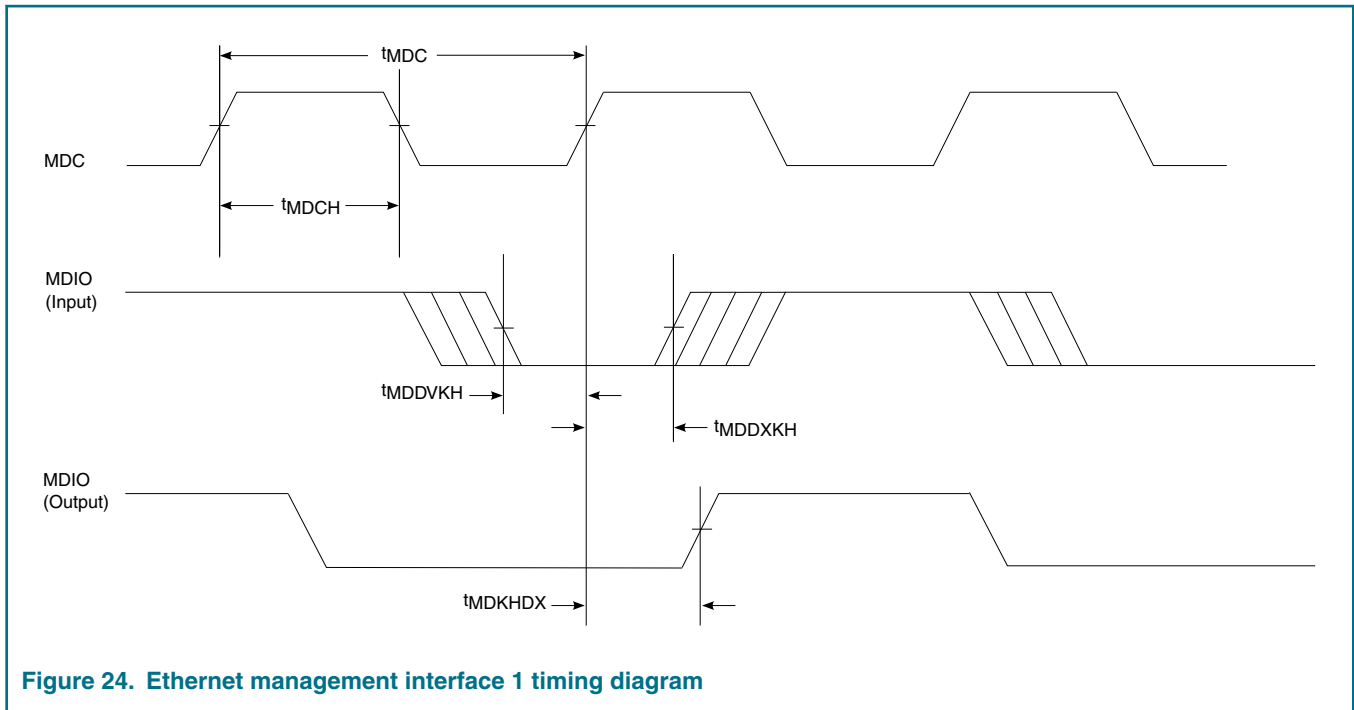

Figure 24. Ethernet management interface 1 timing diagram
5. The symbols used for timing specifications follow these patterns: t_{(first two letters of functional block)(signal)(state)(reference)(state)} for inputs and t_{(first two letters of functional block)(reference)(state)(signal)(state)} for outputs. For example, t_{MDKHDX} symbolizes management data timing (MD) for the time tMDC from clock reference (K) high (H) until data outputs (D) are invalid (X) or data hold time. Also, t_{MDDVKH} symbolizes management data timing (MD) with respect to the time data input signals (D) reach the valid state (V) relative to the tMDC clock reference (K) going to the high (H) state or setup time.
6. See Figure 24. on page 101.